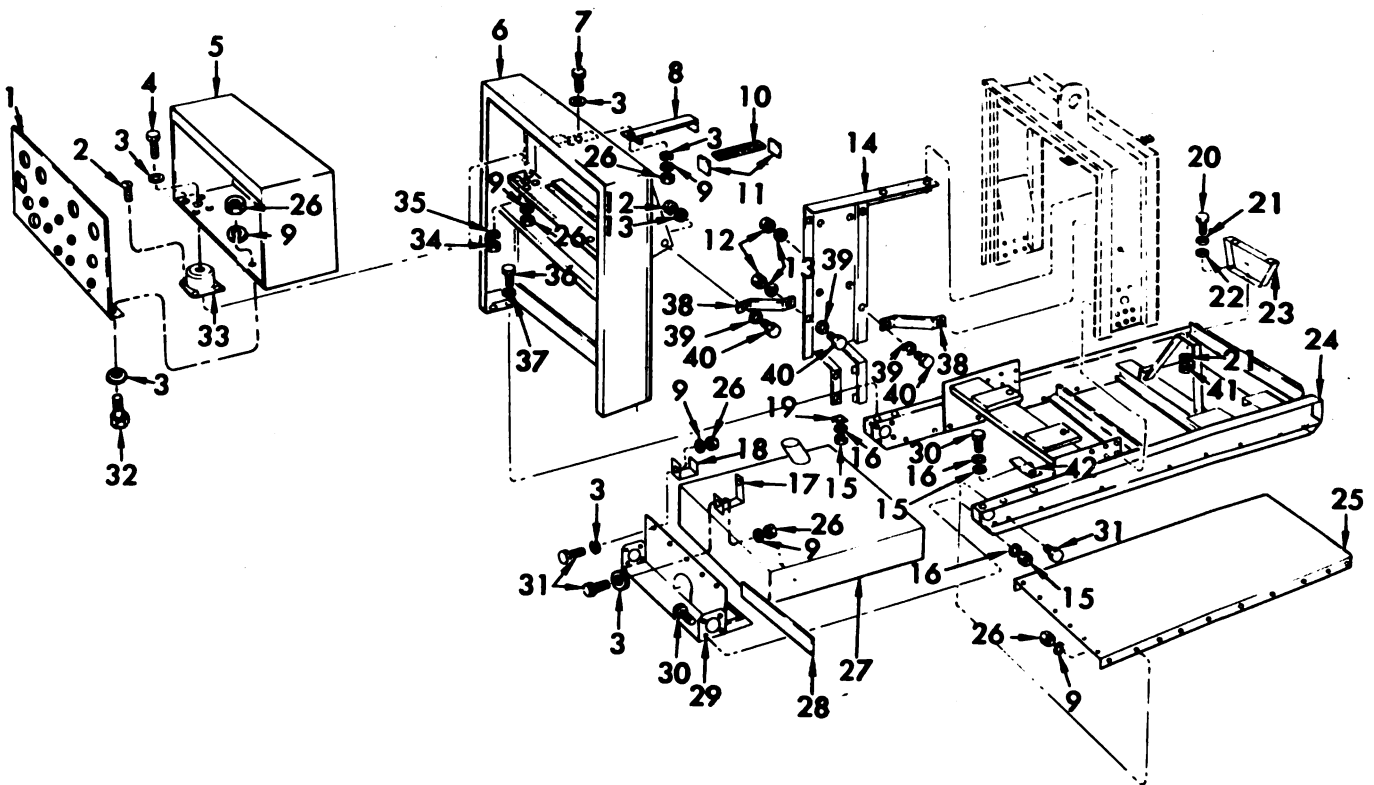

Figure 13-5. Skid Base and Attaching Parts, Removal and Installation
(1) Remove screws (32, fig. 13-5), washers (3, 9) and nuts (26) and remove control panel (1).
(2) Remove screws (4), washers (3, 9) and nuts (26) and remove control box (5).
(1) Attach gravel pan (25, fig. 13-5) to skid base (24) with screws (31), washers (9) and nuts (26).
(2) Install fuel tank (27), insulation (28), and rear plate (29) with screws (30), washers (16) and nuts (15).
(3) Install brackets (17, 18) with screws (31), washers (3, 9) and nuts (26).
(4) Install clamps (42) with screws (30), washers (16) and nuts (15).
(5) Attach engine support (23) with bolt (20), washers (21, 22) and nut (41).
(6) Install rear cowl (6) with screws (36), washers (37), wedges (19), washers (16) and nuts (15).
(7) Attach exciter mounting bracket (14) and bracket supports (38) with screws (40), washers (13, 39) and nuts (12).
(8) Attach bracket support (38) to rear cowl with screw (40), washers (13, 39) and nut (12).
(9) Install control box bracket (8) and insulation (10, 11) with screw (7), washers (3, 9) and nut (26).
(10) Install vibration mounts (33) with screws (2), washers (35) and nuts (34).
(11) Install control box (5) with screws (4), washers (3, 9) and nuts (26).